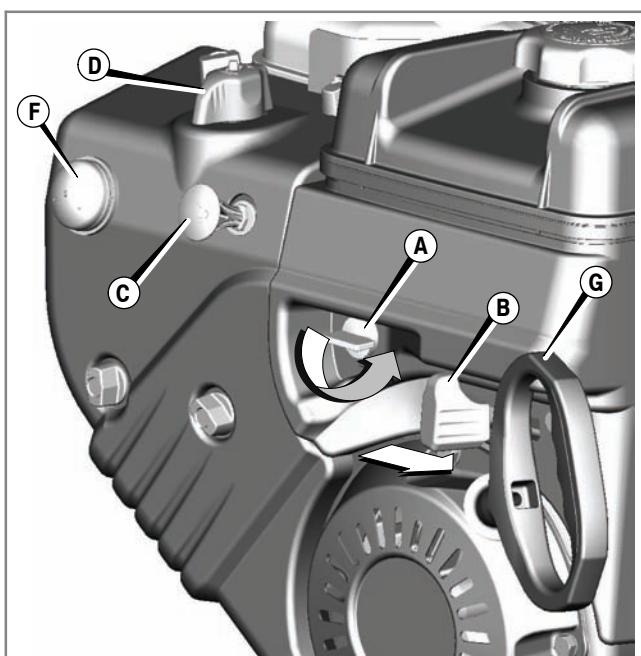

Figure 7
Move the throttle control lever (B), if equipped, to the fast position (Figure 7). Operate the engine with the throttle control lever in the fast position.
- Turn the fuel shut-off valve (A), if equipped, to the on position (Figure 7).
- Push in the safety key (C).
- Turn the choke control knob (D) to the choke position.
- Push the primer (F) two times. See Figure 7.
- Rewind Start:** Firmly hold the starter cord handle (G, Figure 7). Pull the starter cord handle slowly until resistance is felt, then pull rapidly.